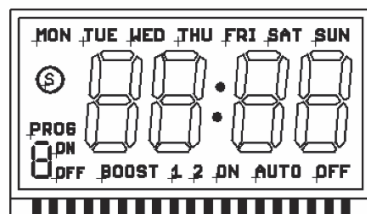

Figure B-2: Full display
- A full display will show when the battery is charged, then revert to the default screen (- - : - -). No display indicates that the battery requires charging for a minimum 3 hour period. See Figure B-2 for a representation of the screen's "full display".